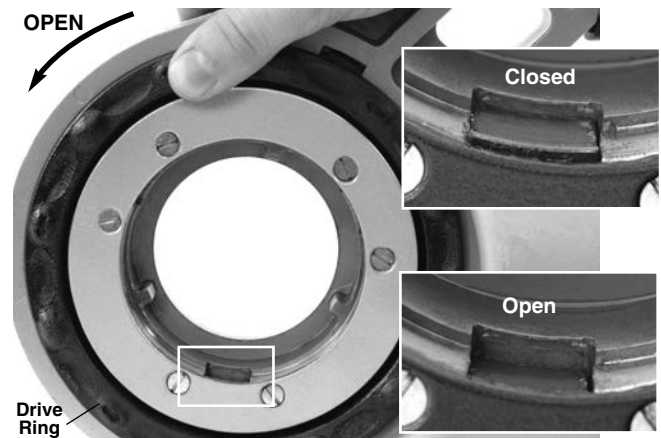

Figure 7 – Retaining Mechanism, Drive Ring in the Open/Closed Position
- b. Rotate the drive ring counter-clockwise to open the retaining mechanism. Fully insert the die head or adapter (if required) spline end into the power drive (*Figure 7*).